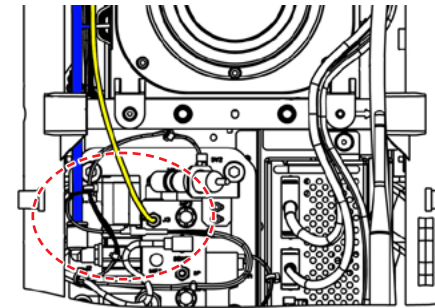

Figure 3-22 Pneumatic Tubing Connecting Pneumatic Manifold and Fluidics PCB Assembly
- 24.3 Disconnect yellow and blue tubing between Pneumatic Manifold and Fluidics PCB Assembly (see Figure 3-22).